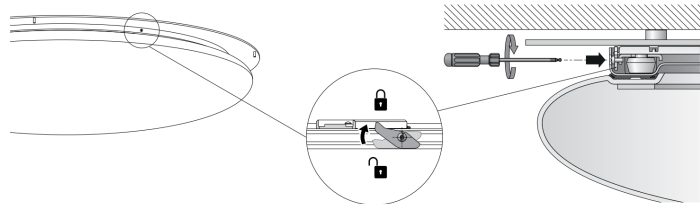

Figure 2
7. Secure single set screw on the side of the housing to keep fixture in place with T10 screwdriver [Figure 2]